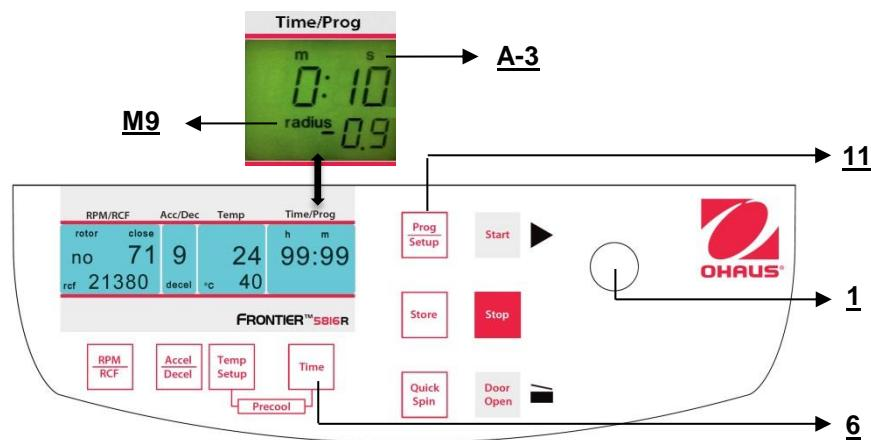

Figure. 21
Close the lid, then press the key "Time" (6) (refer to figure 21) and the key "Prog/Setup" (11) at the same time and hold them.